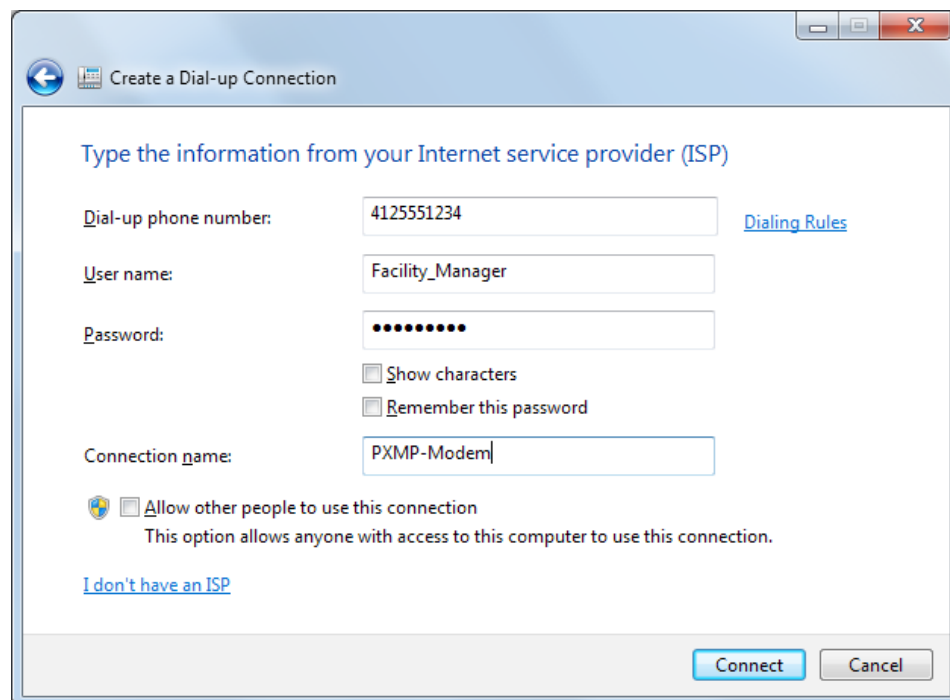
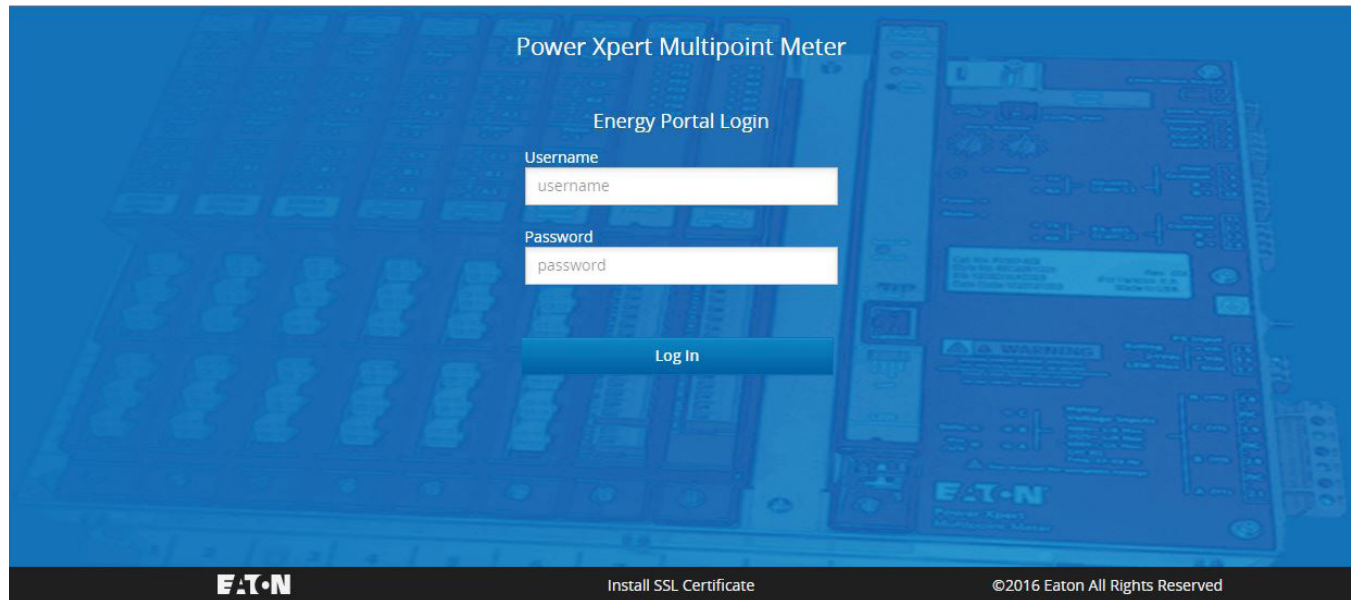

Figure 50. Create a Dial-up Connection.
Figure 51. Dial-up Connection Welcome Screen.
4. A "Create a Dial-up Connection" window appears (Figure 50). The "Dial-up phone number" needs to be filled in with the phone number that is assigned to the
5. Click the “Connect” button in (see Figure 50) to proceed with the dial-up connection. Upon a successful connection, the Facility Manager can access the PXMP-EPM-M at a fixed IP address of 192.168.2.1, as shown in Figure 51.